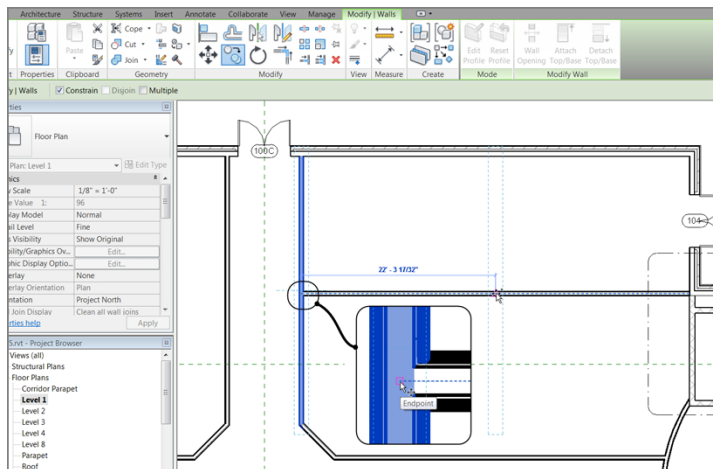

FIGURE 4.4: Creating a copy of the corridor wall
2. Zoom and pan so you're focused on the east wing, as shown in Figure 4.4.
3. Select the right corridor wall (see Figure 4.4).
6. Zoom in on the wall close to the midpoint of the selected wall and the intersection of the horizontal wall that divides this portion of the building (see Figure 4.4).